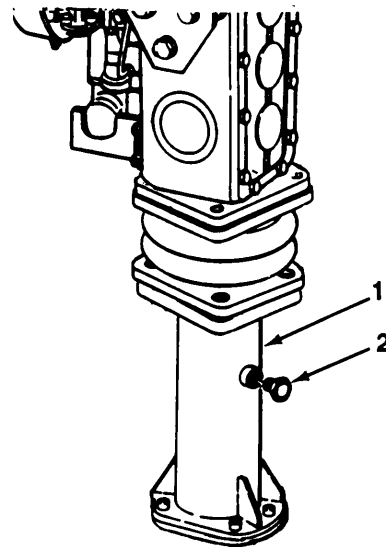

Figure 13-9. Draining and Filling Lower Unit Oil (VR11).
- Refer to Figure 13-9, *Draining and Filling Lower Unit Oil (VR11)*, for step b.
- b. Remove oil sight gage (2) from lower unit (1) and allow all oil to drain.
Refer to Figure 13-9, *Draining and Filling Lower Unit Oil (VR11)*, for steps d and e.